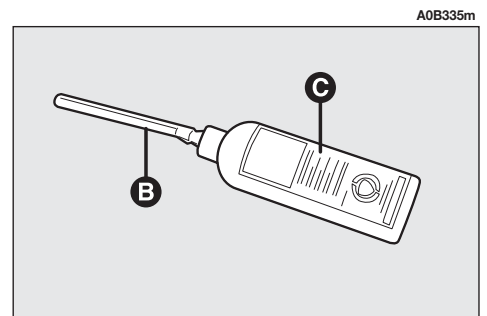

fig. 14
**2)** Screw the filling pipe (**B-fig. 14**) to the bottle (**C**).